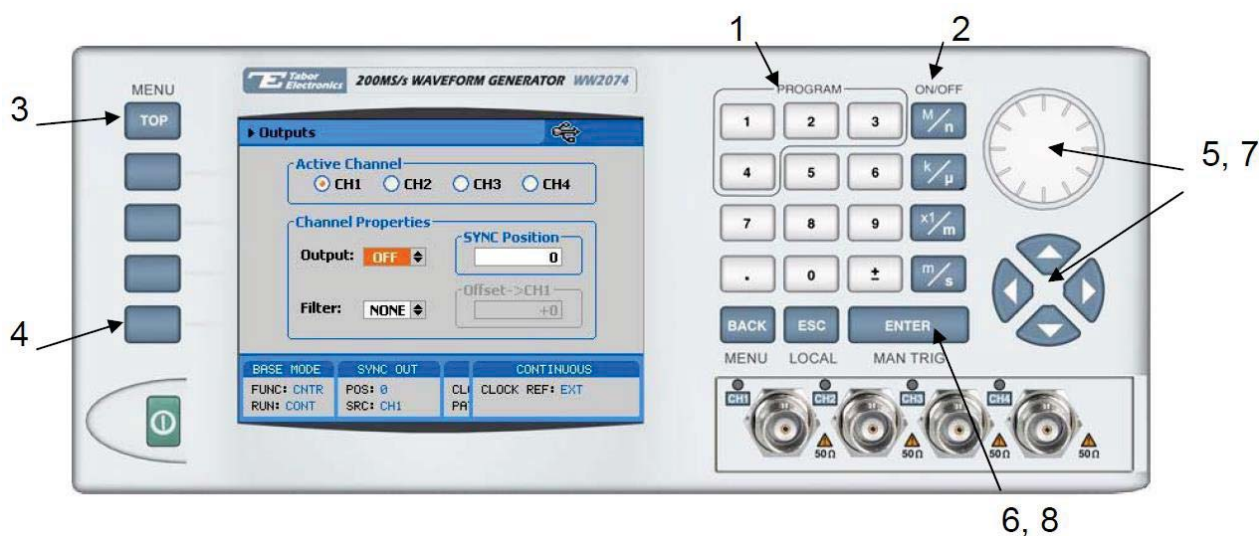

Figure 3-3, Enabling and Disabling the Outputs
For safety reasons, main outputs default setting is OFF. The outputs can be turned on and off using either the hot keys, or the Output Menu. Observe Figure 3-3 and disable or enable the main outputs using the procedure below. The same procedure can be used for enabling and disabling the SYNC output. The numbers on Figure 3-3 correspond to the procedure steps in the following description.
4. Press Outputs to open the Outputs dialog box as shown in Figure 3-3